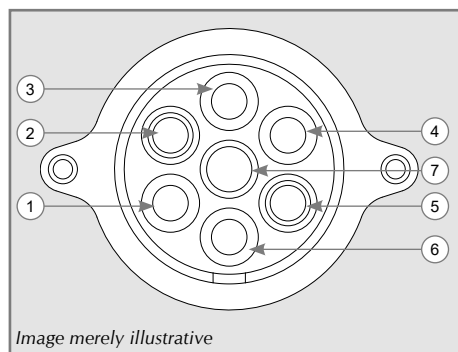

Figure 1
- ✓ For using the TR 1500, check the 12 V electrical outlet connection with the tractor battery, for the correct connection scheme, as per Figure 1.
- ✓ Before hooking up the utility trailer with the TR 2000 to any automobile, check the indication of load capacity of the automobile's support and compare if it is compatible with the weight of the machine. Before connecting the trailer to an automobile, position both on flat terrain, keeping observers and children away. Before turning on the 12 V outlet of the carriage to an automobile, check the electrical outlet connection and the wiring scheme; consult Figure 1 on page 11 for the correct wiring scheme. Damages caused by incorrect connections are not covered by warranty.